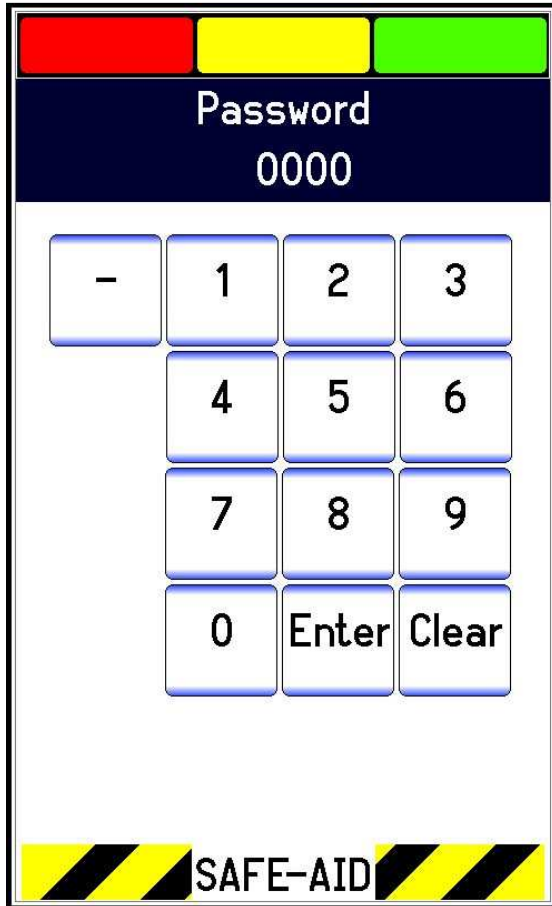

Figure 24
## PROGRAM & REEVING LOCKOUT - FIGURES 24, 25, 26 & 27
1. Press the top left hand corner and the **Password** screen will be displayed (figure 24).